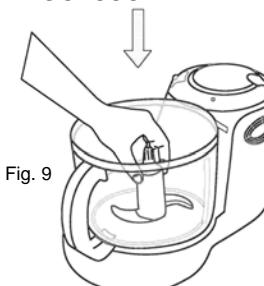

Fig. 9
2. Fit the dough blade over the spindle and press firmly into place. (Fig. 9)